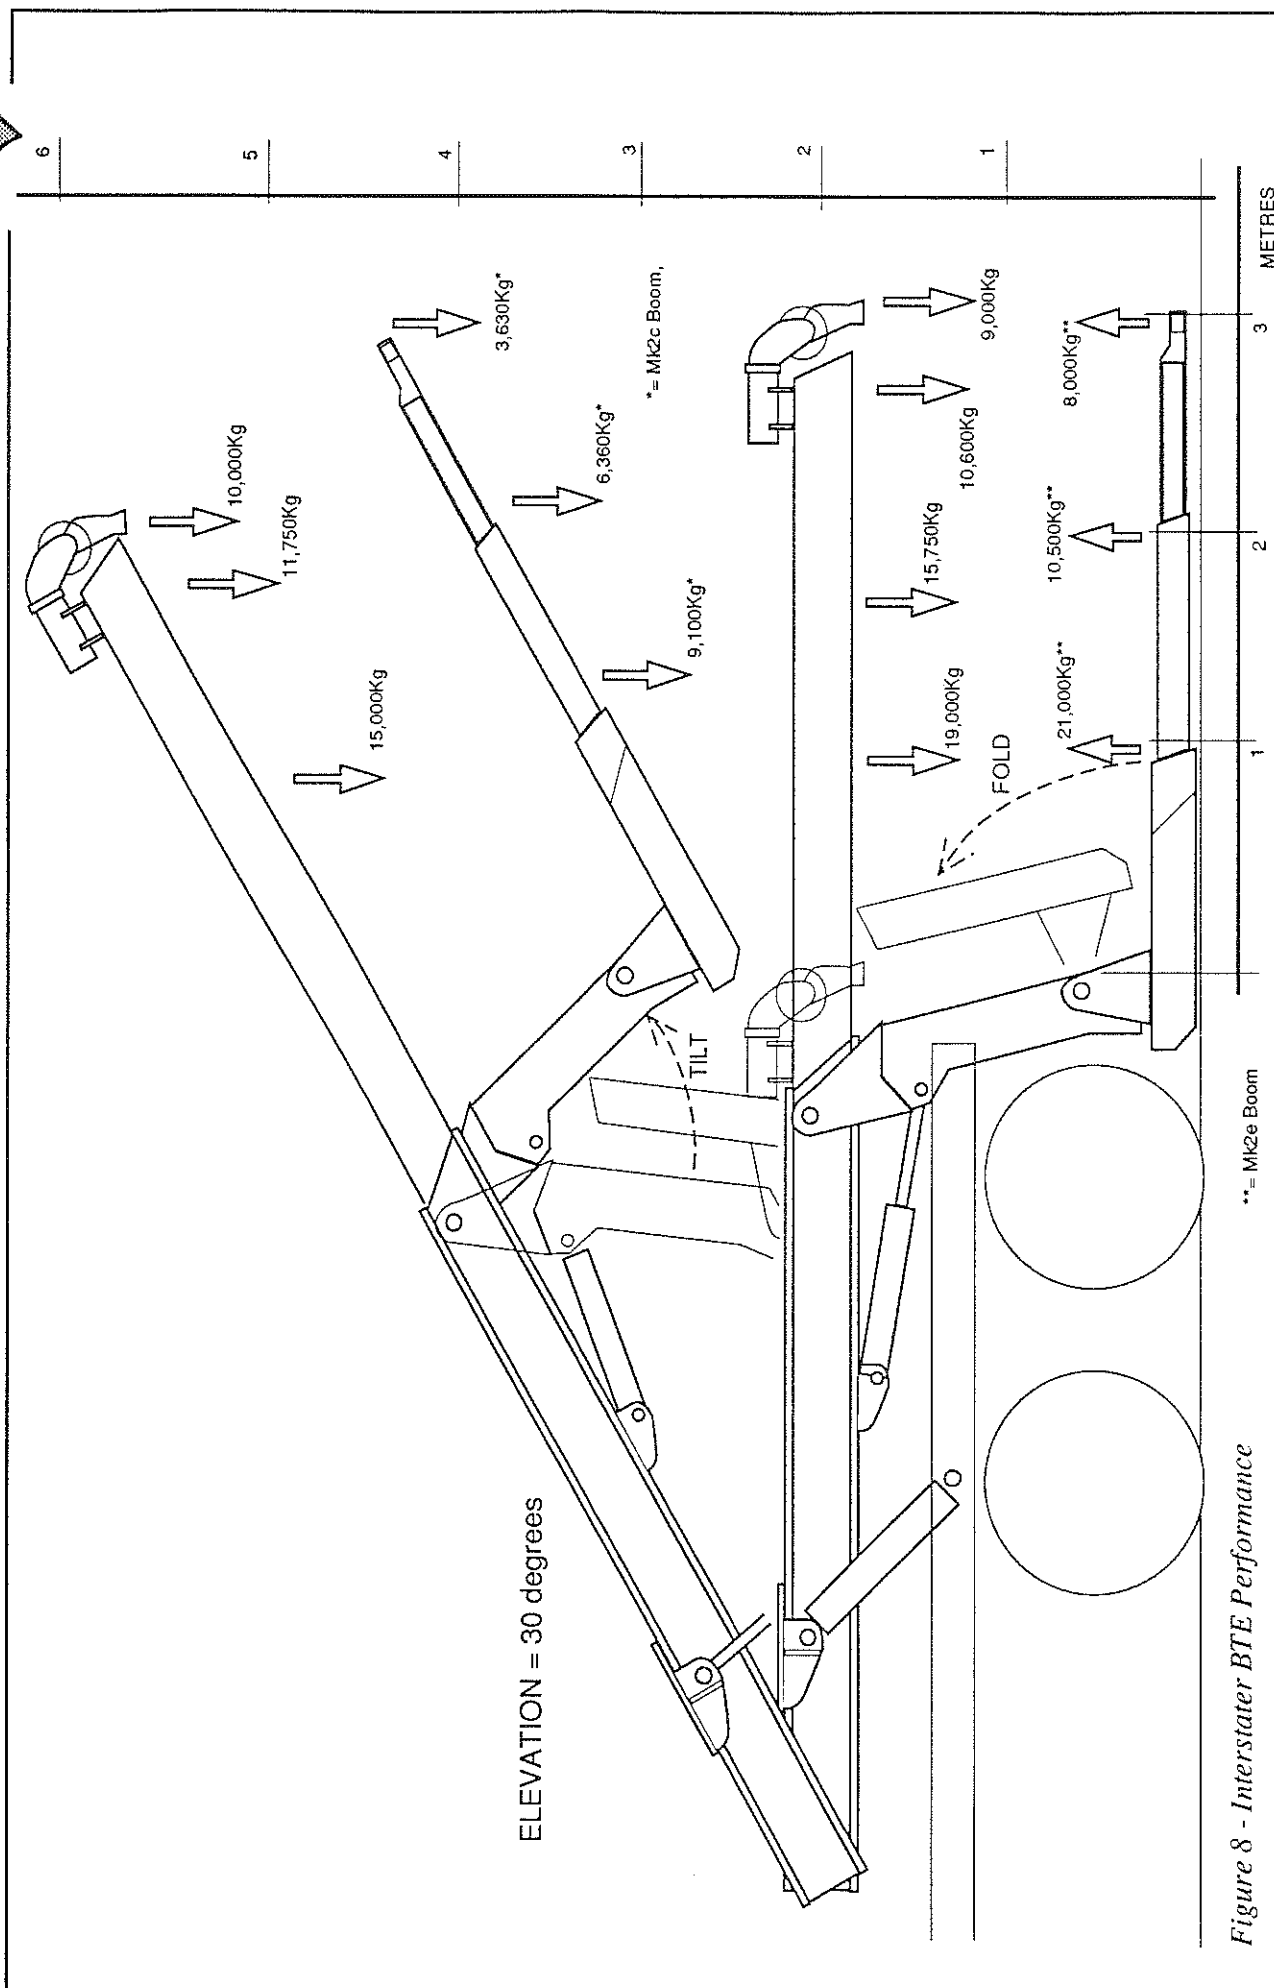

Figure 8 - Interstater BTE Performance
2.1.11     Using the Boom Out Push Switch, operate the Telescopic Boom fully out and check for leaks. Ensure that the extension is that specified in Figure 8. NOTE: Before operating the Boom Out control, ensure that the winches are able to freespool, or there is enough slack in the rope to allow the full range of movement.